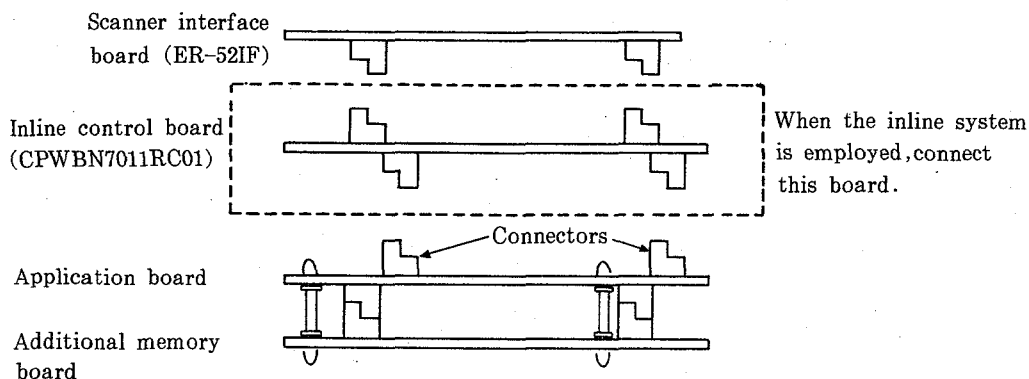

Fig.54
- (1) For safety, unplug the ER-6750.
- (2) Remove the rear cover. (See page 38.)
- (3) Connect the scanner interface board (ER-52IF) onto the application board.
- (NOTE) When the inline system is employed, first connect the inline control board (CPWBN7011RC01) to the application board, then connect the scanner interface board onto the inline control board. (See Fig.54.)